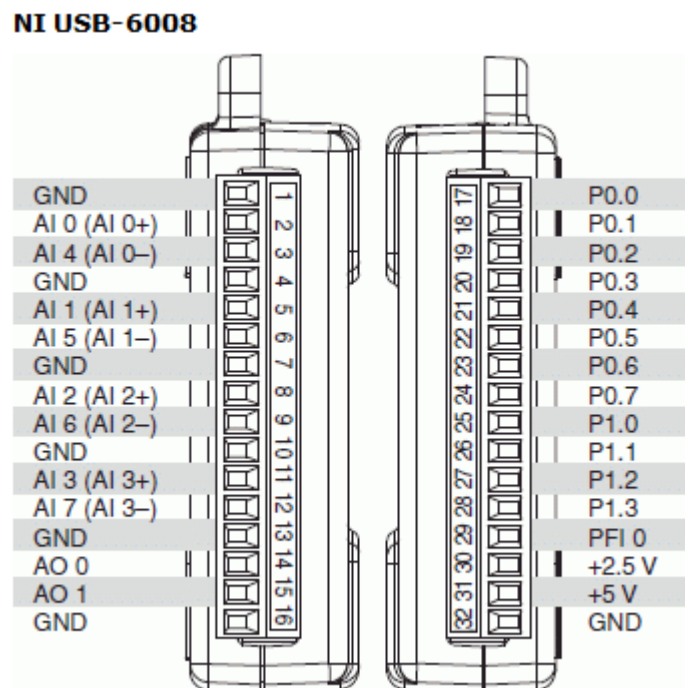

Figure 2.13: USB 6008 Pinout.
1. Draw a schematic of the circuit you connected in the lab using Figure 2.13.